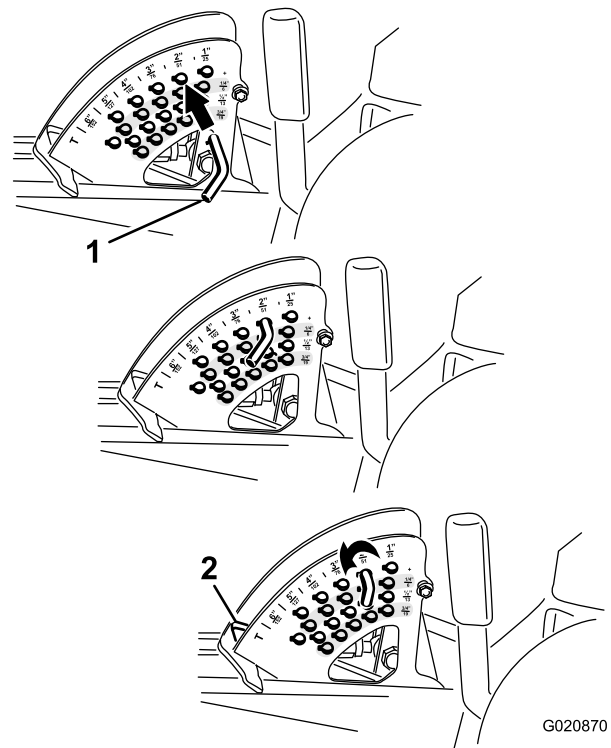

Figure 25
2. Rotate the stop pin until the roll pin in it lines up with the slots in the holes in the height-of-cut bracket and remove it (Figure 25).
3. Select a hole in the height-of-cut bracket corresponding to the height of cut desired, insert the pin, and rotate it down to lock it in place (Figure 25).
Note: There are 4 rows of hole positions (Figure 25). The top row gives you the height of cut listed above the pin. The second row down gives you the height listed plus 6 mm (1/4 inch). The third row down gives you the height listed plus 12 mm (1/2 inch). The bottom row gives you the height listed plus 18 mm (3/4 inch). For the 15.8 cm (6 inch) position, there is only 1 hole,